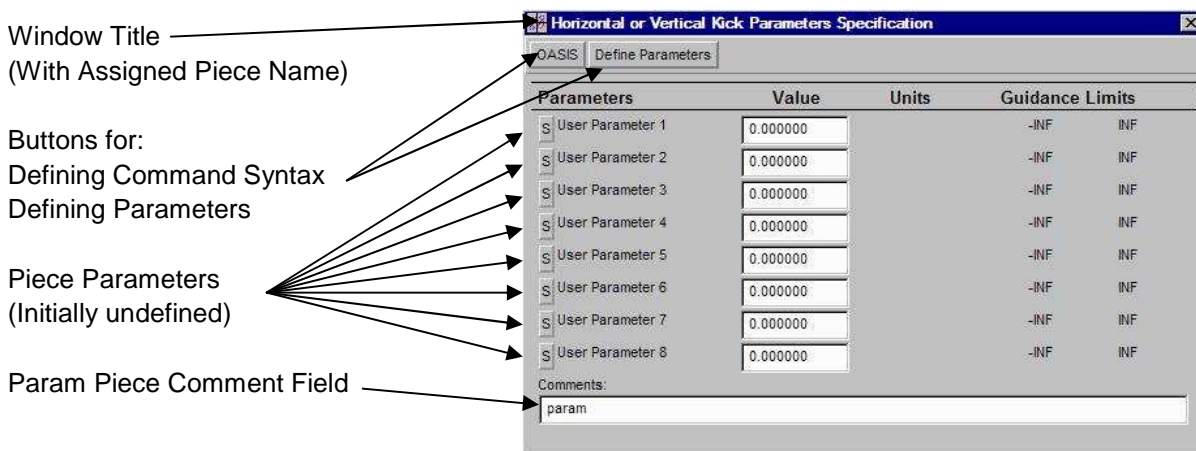
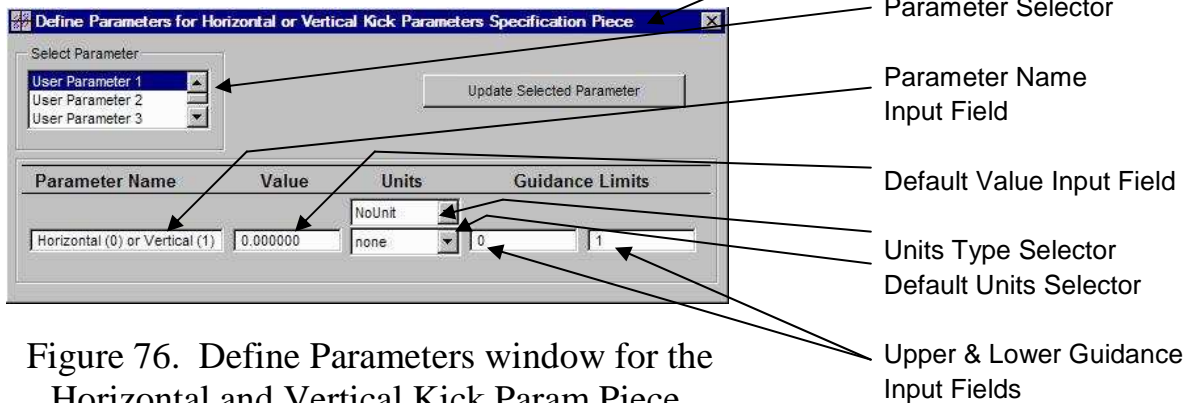

Figure 75. Horizontal and Vertical Kick Parameters Specification window.
Figure 76. Define Parameters window for the Horizontal and Vertical Kick Param Piece.
Once a name for the Param Piece has been entered, the OK button is used to create a Param Piece with this name. The newly created Piece will appear in the lower left region of the Work Space of the Module Specification Document. This is the same location where newly created Comm Pieces appear (see Figure 55). Move (Shift-drag) the new Param Piece to the Model Space of the Module Specification Document. Remember, *only Pieces located on the Model Space are used during runtime of an OASIS Module*. Double click the Param Piece icon to open the [Piece Name] Parameters Specification window, illustrated in Figure 75.
There are a few differences between an OASIS Comm Piece and an OASIS Param Piece. First, the OASIS Param Piece has no tab panels comparable to those available on a Comm Piece (Figure 56). Consequently the Parameter Specification window (Figure 75) has no tab pages and no field for entering names for tab panels. This limits the number of parameters to eight (8), rather than the twenty-eight (28) available to a Comm Piece. Second, only real parameters are utilized with the OASIS Param Piece. This is apparent in Figure 76 which illustrates the Define Parameters window for the Param Piece. In contrast, the OASIS Comm Piece supports integer, real and string (text) parameters (Figure 57).